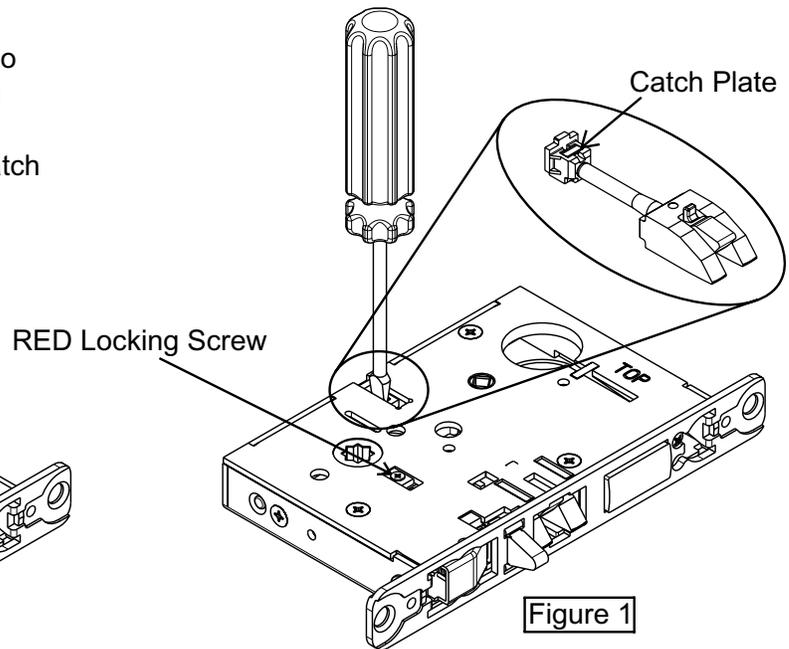

Figure 1
Step 1) Move the Red locking screw to side of lock-body being locked (Fig. 1)
Step 2) Push in latch then depress catch plate with screw driver (Fig. 1)